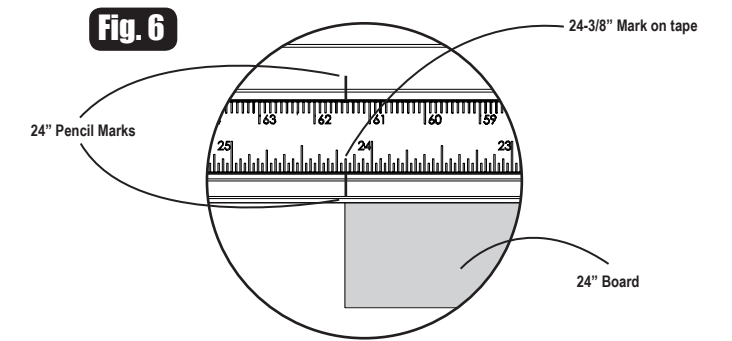

Fig. 6
3. Remove about 1/2" of the backing paper from the self-adhesive measuring tape at both sides of the 24 3/8" mark. Align the 24 3/8" mark on the tape with the 24" pencil marks on the Trak, as shown on Figure 6, and adhere the tape to the Trak. Keeping the tape centered in the channel, remove the remaining backing paper as you adhere the tape to the Trak.